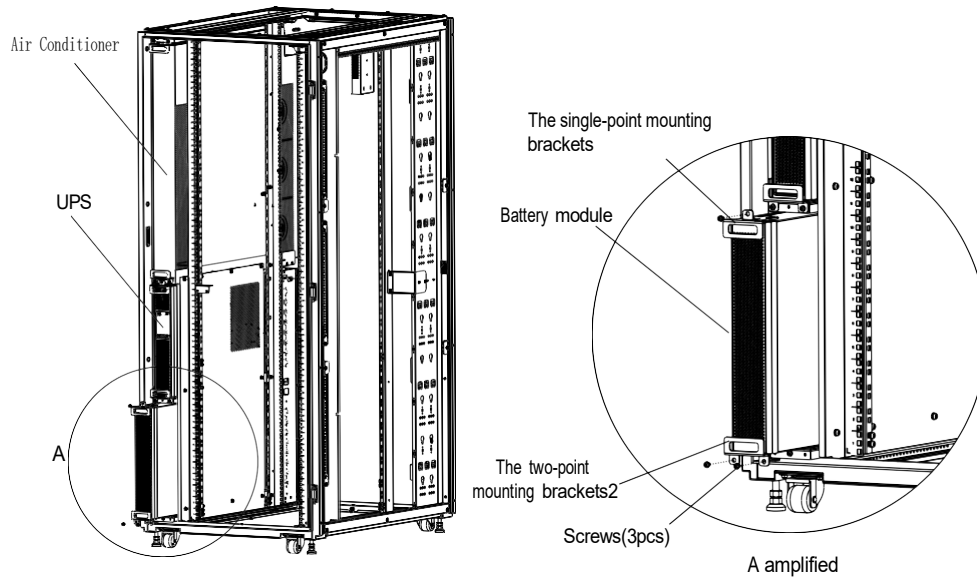

Figure 2-27 Mounting the battery module
- The battery module is placed on the carrier plate of the cabinet, is mounted at a lower position UPS. Pushing the battery pack and M5 × 12 with screws (3) through the brackets to the rack, shown in Figure 2-27.